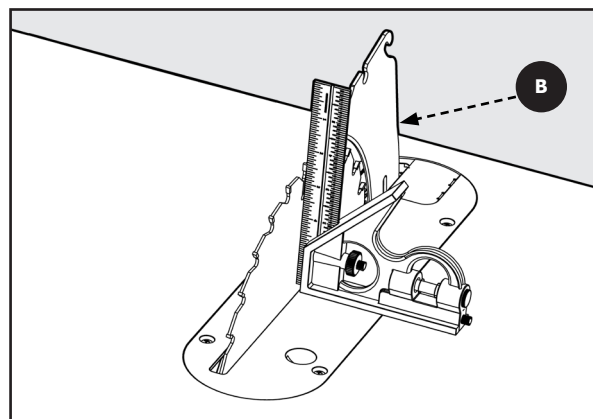

Figure 43
- 2. Vertical Alignment:** Place a combination square on the table and against the blade face and make sure it extends up along the riving knife **B**, see Figure 43. The riving knife and blade should touch the carpenter's square with no gaps. Be sure the straight edge goes between the teeth and rests on the blade face and the riving knife for proper alignment.